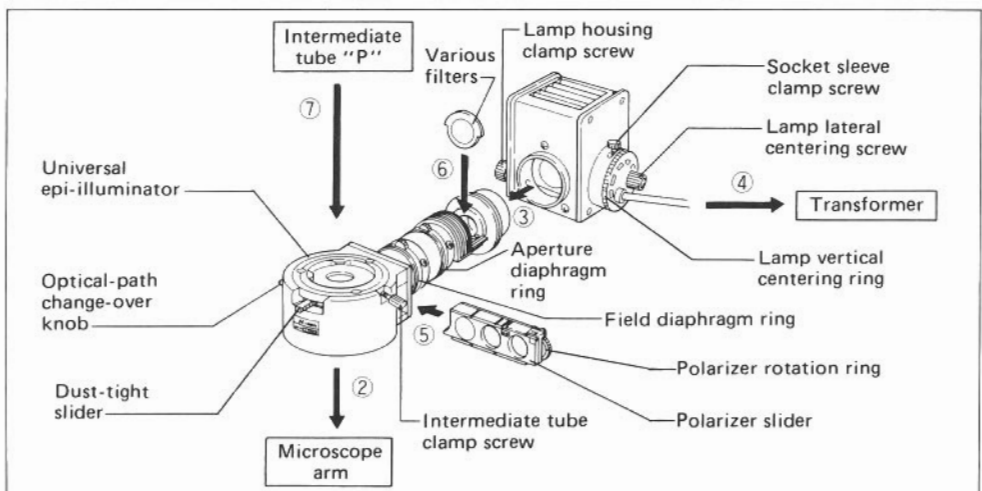

Fig. 36
- Referring to Fig. 36, assemble in the order given.